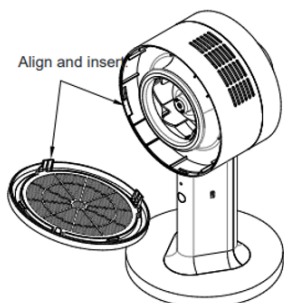

Fig. 12
12. Align the fasteners on the panel component with the installation port on the main unit and insert them [Fig. 12].